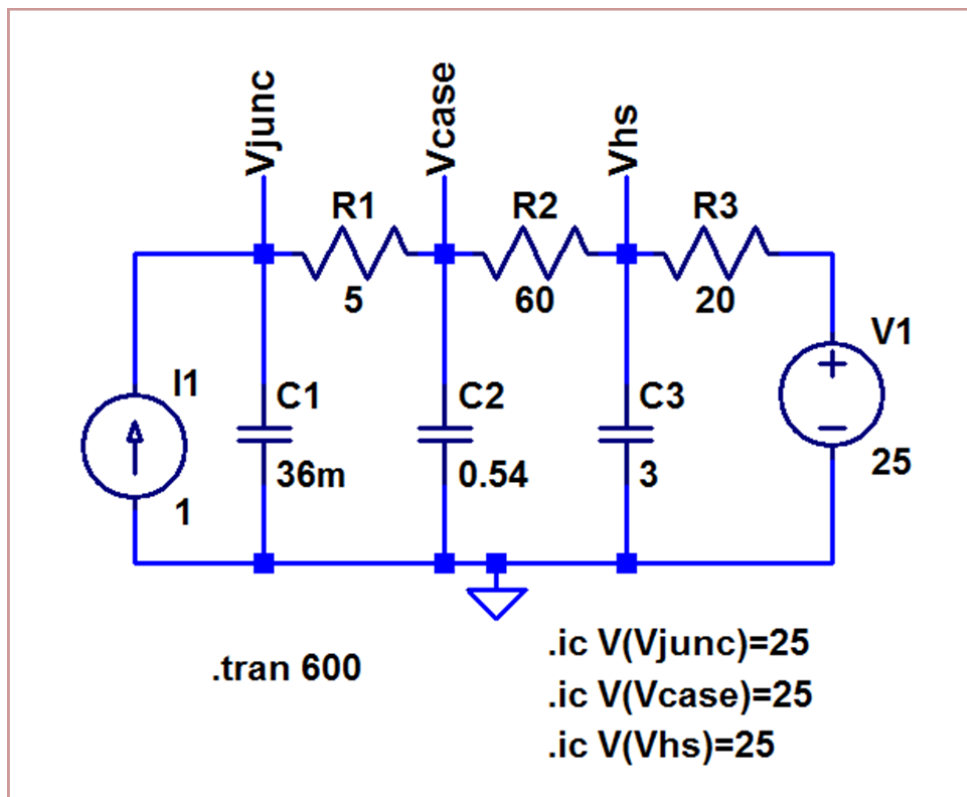

Figure 13. Electrical RC model of the thermal system representing a regulator on a heatsink.
1. Simulate the schematic shown in Fig. 13. Be sure to set all the initial conditions as shown. This models everything being at room temperature before the heat is applied. The simulation time is 600 seconds or 10 minutes. Plot V_{junc} , V_{case} , and V_{hs} on the same plot. **(Schematic, Plot)**